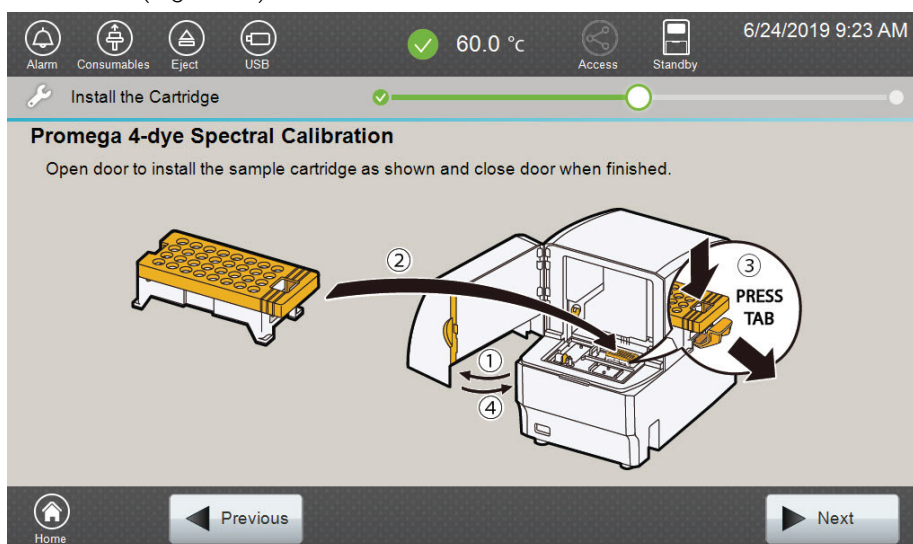

Figure 50. 'Install the Cartridge' screen.
6. Open the front door of the Spectrum Compact CE System and mount the sample cartridge on the autosampler by following the instructions displayed on the 'Install the Cartridge' screen (Figure 50).